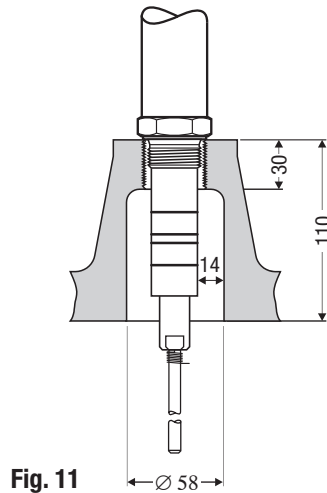

Fig. 11
- If the level electrode NRG 111-50 is to be installed in a flanged standpipe DN 50 use only the GESTRA hat flange. **Fig. 11**
- Make sure that the air distance between the electrode rod and earth (flange, vessel wall) is not less than 14 mm. **Fig. 11, Fig. 15-21**